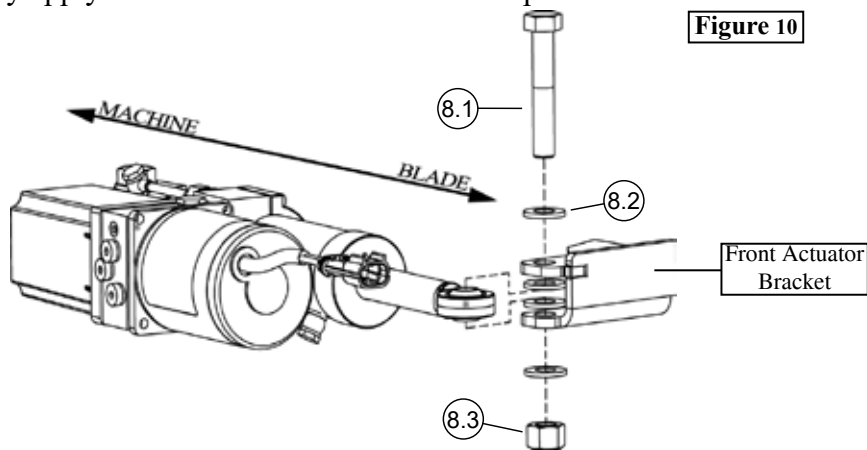
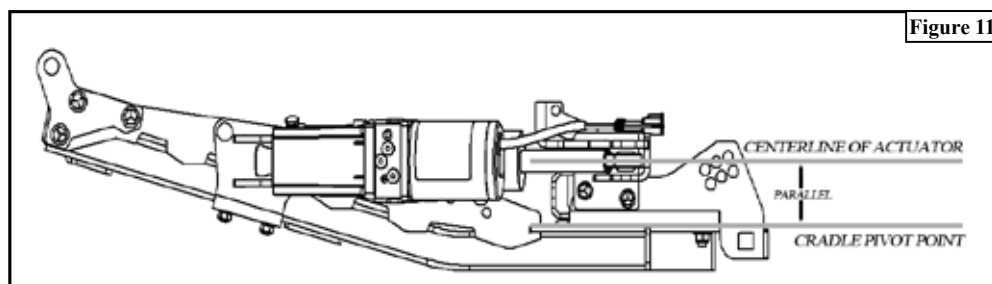

Figure 10
Figure 11
2. Repeat previous step for mounting the front half of the actuator, as shown in Figure 10. It is most important that you use the washers to make sure that the actuator is parallel to the cradle swivel point, as shown in Figure 11. Both front, and rear bolts should not be tight, thread the nut on until Nylock is engaged.